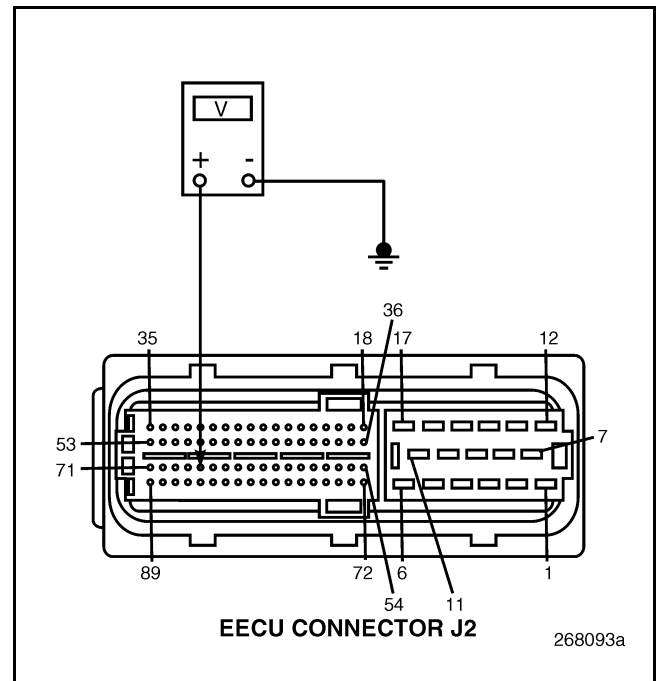

Figure 801
5. Measure the voltage between EECU connector J2 pin 67 and a good ground (see Figure 801).